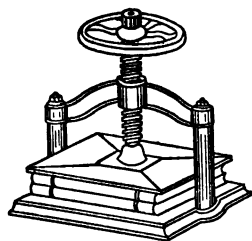

FIG. 173. — Letter press.
19. The threads of a letter press are $\frac{3}{8}$ in. apart. If a force of 40 lb. is applied to the rim of a 12-in. wheel, what is the force of compression? See Fig. 173.